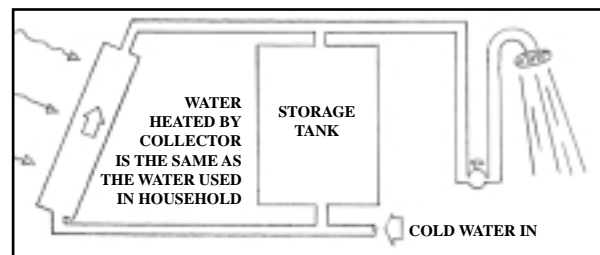
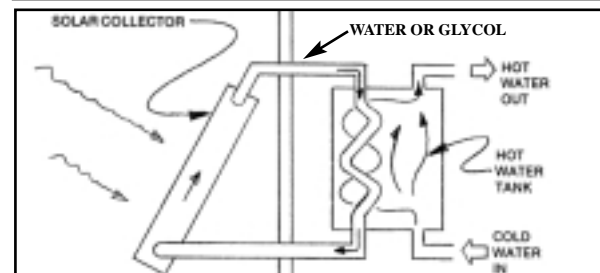

Fig. 3: (right, above) An open system
Fig. 4: (right) A closed system
**Rob:** And—on active systems, a controller turns a pump on and off as solar heat is available. Let's define a few terms used to describe these systems—active vs passive, open vs closed. An **active system** is one that uses pumps to move the heat about. A **passive system** is one that contains no pumps, relying instead on natural convection, conduction, or radiation to move heat. An **open system** means the water circulating through the collector is the same water you'll use in a shower (Fig. 3). A **closed system** circulates the separate heated fluid from the collector through a small loop that includes a heat exchanger, usually located in the storage tank (Fig. 4).